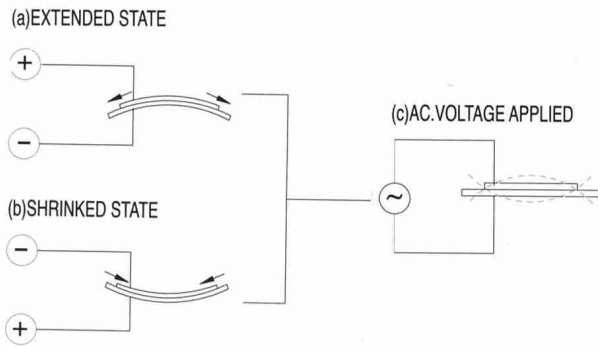

FIG.3 Oscillation system
- D. Voltage between electrodes of a piezoelectric element causes mechanical distortion due to the piezoelectric effect. For the piezoelectric diaphragm expands in radial direction, the piezoelectric element bends towards that direction. But the metal plate bonded to the piezoelectric diaphragm does not expand; Conversely, when the piezoelectric diaphragm shrinks, the piezoelectric element bends in another direction. Thus, when AC Voltage is applied across electrodes, the above descriptive is repeated, producing sound waves in the air as shown in fig3.